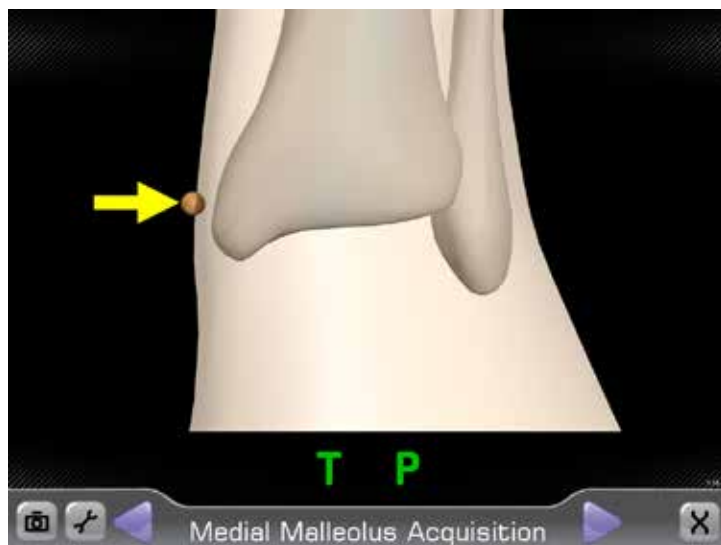
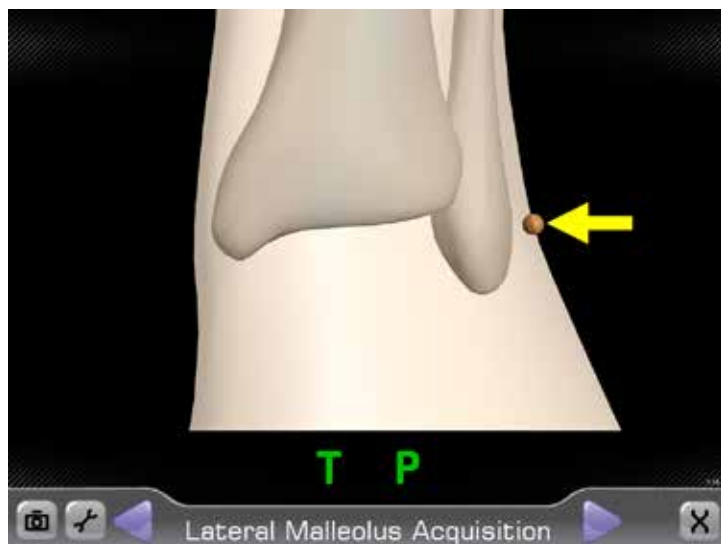

Figure 33
Figure 34
Advance to the Medial Malleolus Acquisition screen (*Figure 33*). Position the tip of the Probe Tracker (P) on the medial malleolus and press the Forward button to register this point. The system will automatically advance to the Lateral Malleolus Acquisition screen (*Figure 34*).